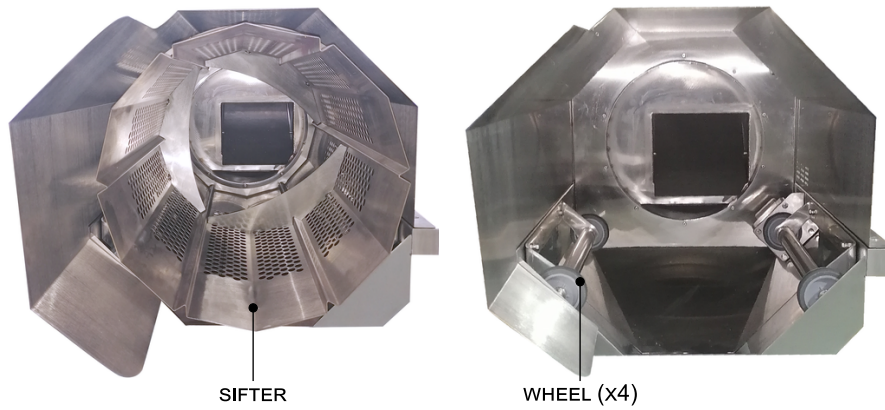

Figure 5: Sifter cleaning
6. Take out the **sifter drum**, see Fig. 5. Sifter drum lays freely on four **wheels**. To take sifter drum out, lift it and then pull out from the machine.